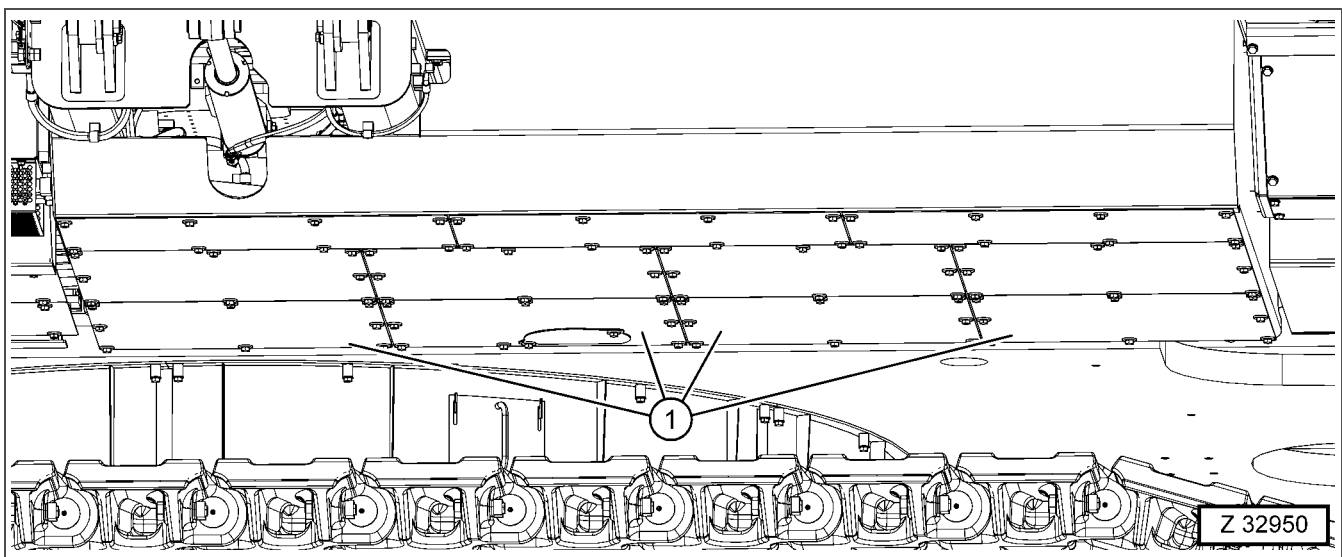

Fig. 3-515
- 36. Assemble the covers (Fig. 3-515, Pos. 1) at the bottom side of the fuel tank.